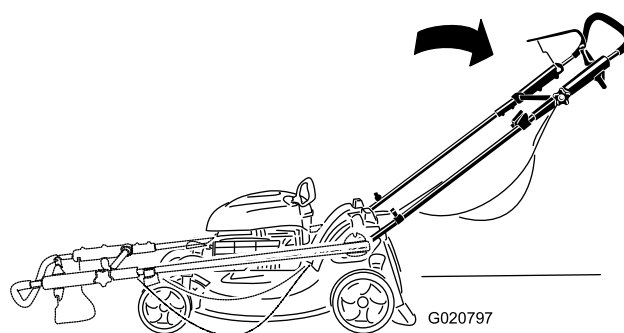

Figure 3
1. Unfold the handle as illustrated in Figure 3.